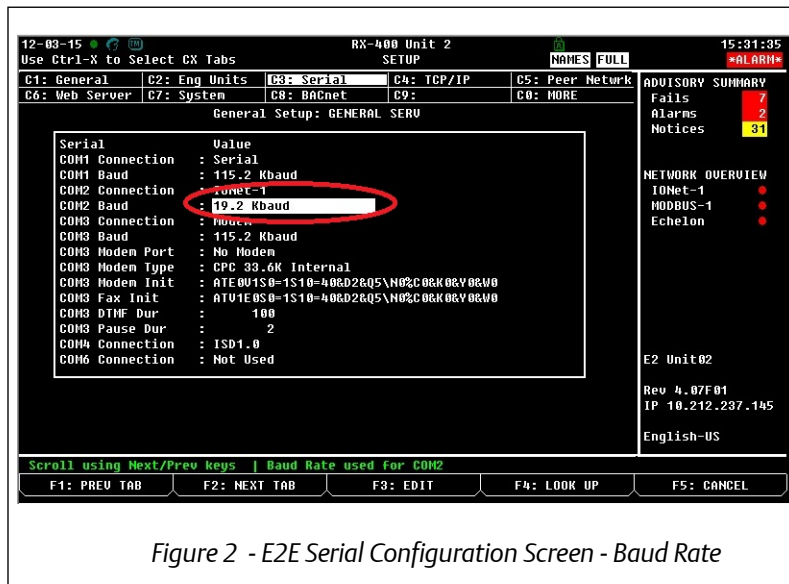

Figure 2 - E2E Serial Configuration Screen - Baud Rate
3. Press **Ctrl** + **#3** (or **F2** two times) to access the *C3: Serial* tab (Figure 2).